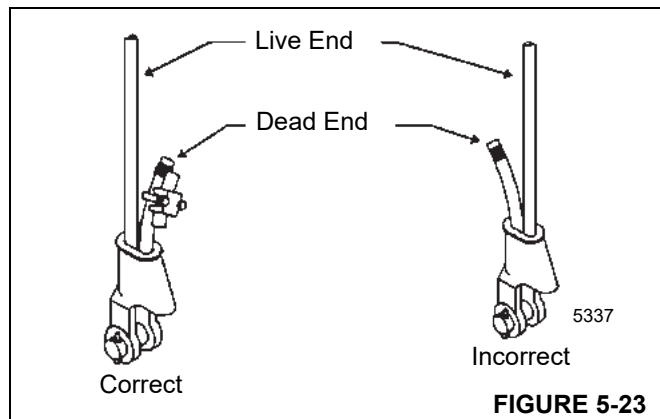

FIGURE 5-23
3. Make sure live end side (Figure 5-23) of rope is directly in line with ears of socket and direction of pull to which the rope will be subjected. If rope is loaded into socket incorrectly, under a load the rope will bend as it leaves the socket. The edge of the socket will wear into the rope causing damage and eventual failure.